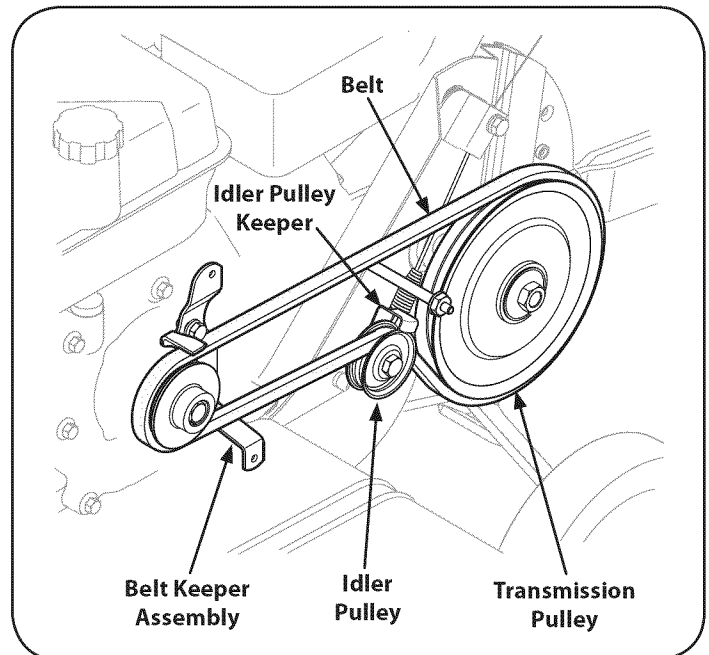

Figure 28
2. Remove the idler pulley bolt and move the belt from under the idler pulley keeper. See Figure 28.
3. Remove the belt keeper assembly located behind the engine pulley by removing the two hex bolts and lock washers. See Figure 28.
4. Remove the old belt from around the transmission pulley and install the new belt. See Figure 28.
NOTE: Upon reassembly, make certain that the idler pulley keeper is as shown in Figure 28. Take note of the notch on the bottom of the keeper and the alignment when reassembling with the replacement belt.